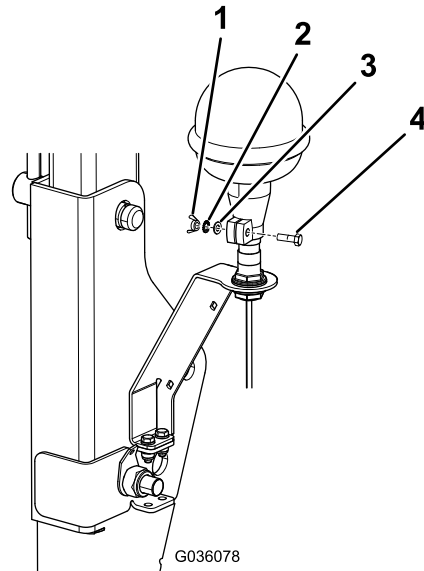

Figure 13
6. Tighten the wing nut on the clamp (Figure 13).